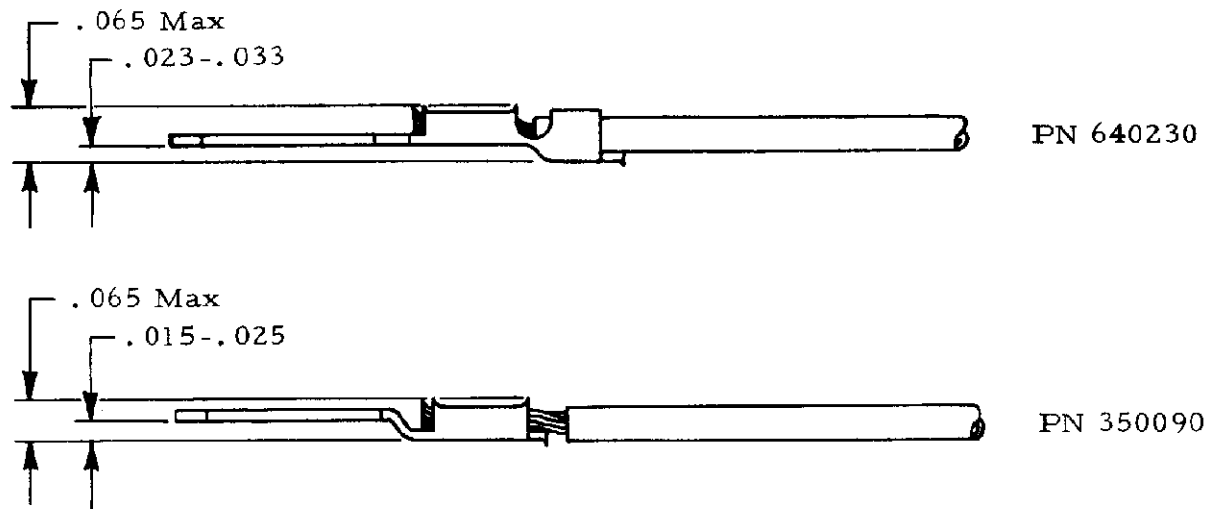

Figure 2
(1) Rear bellmouth length shall not exceed .020 and be within the requirements of Figure 2. In the event of conflict, the requirements of Figure 2 shall take precedence.
(2) Front bellmouth length shall not exceed .010.
- (1) The contact shall be within the limits shown in Figure 2 after crimping.